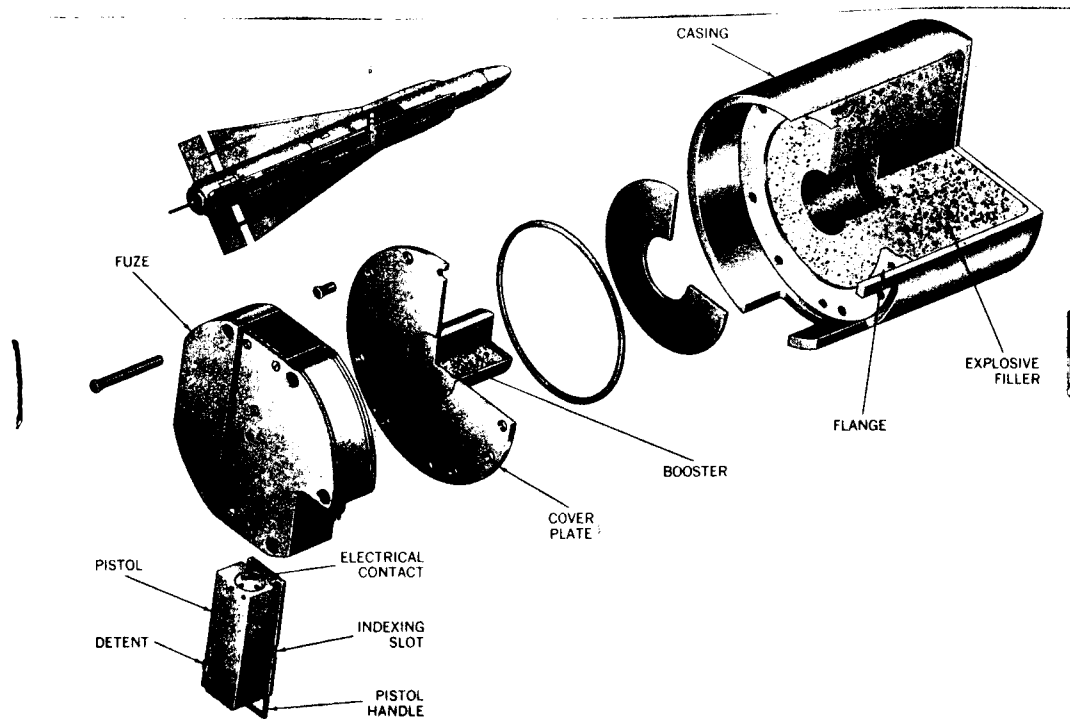

Figure 5-29. Warhead and Fuze for AIM-4F and AIM-4G
- a. Warhead: Blast type, 7.1 pounds HE. Rear section of forward fuselage (reference figure 5-29).
- b. Fuze: Aft of warhead, operates by contact or clockwork (SD) (reference figure 5-29).
c. Pistol: Mates to fuze and is removable. Contains a detonator which detonates warhead. Window show red "A" indicates armed; green "S" indicates safe (reference figure 5-29).